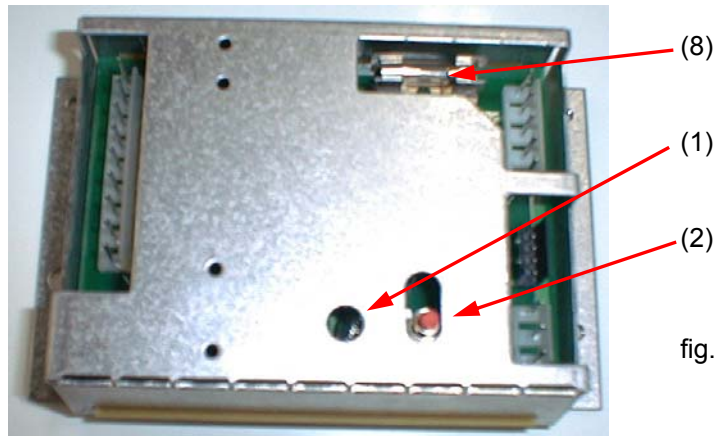
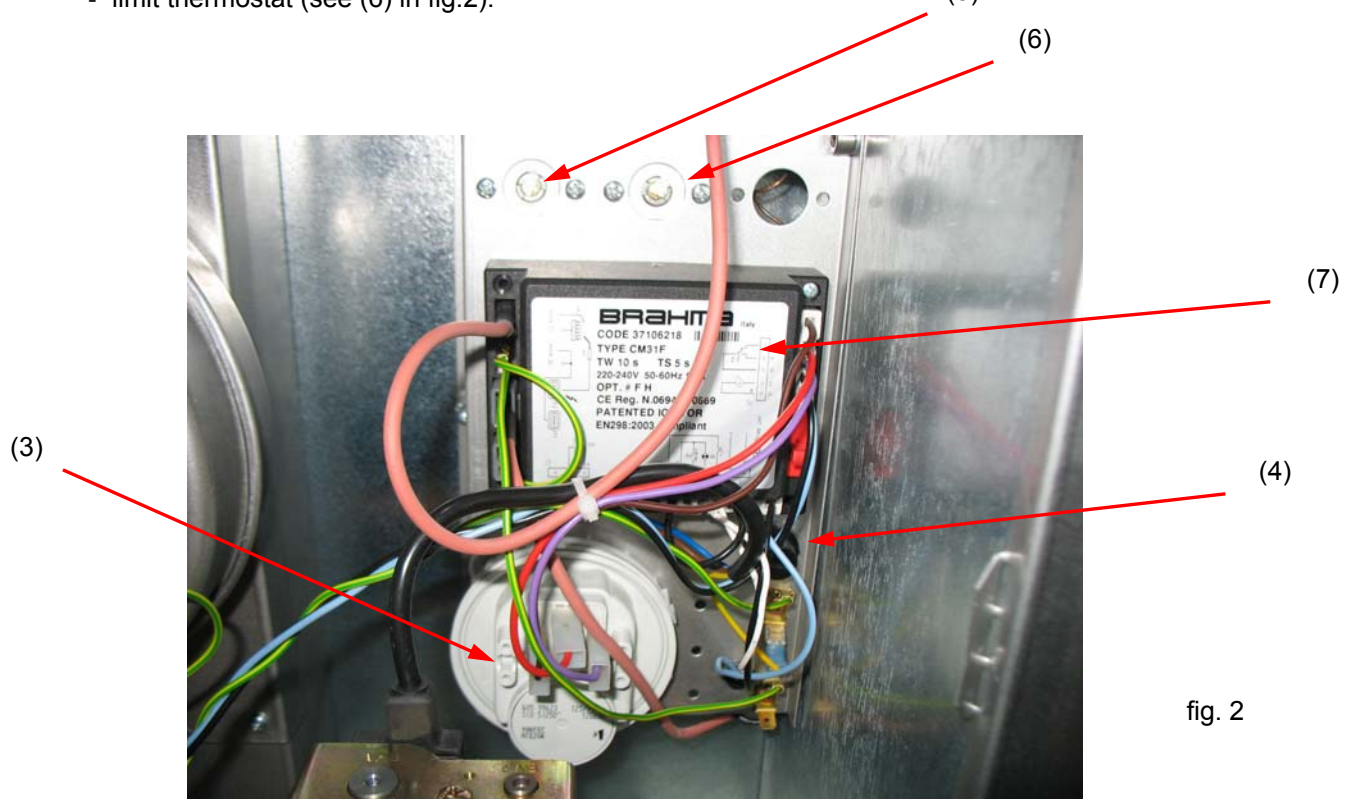

fig. 1
fig. 2
- fault alarm warning lights (no presence of flame) – to see (1) in fig. 1
- a manual-reset safety thermostat, which trips when air temperature reaches 100°C. It can be reset with the relevant button (see (4) in fig.2).
- an air pressure switch for controlling the combustion circuit (see (3) in fig.2).
- a flame control device (see (7) in fig.2). The unit can be reset either via the electronic board on the heater (see (2) in fig.1) or via the thermostat or programmable thermostat.
- 6,3A fuse protecting the power line (see (8) in fig.1).
- a fan-thermostat for triggering the air delivery fan's operation (see (5) in fig.2)
- limit thermostat (see (6) in fig.2).